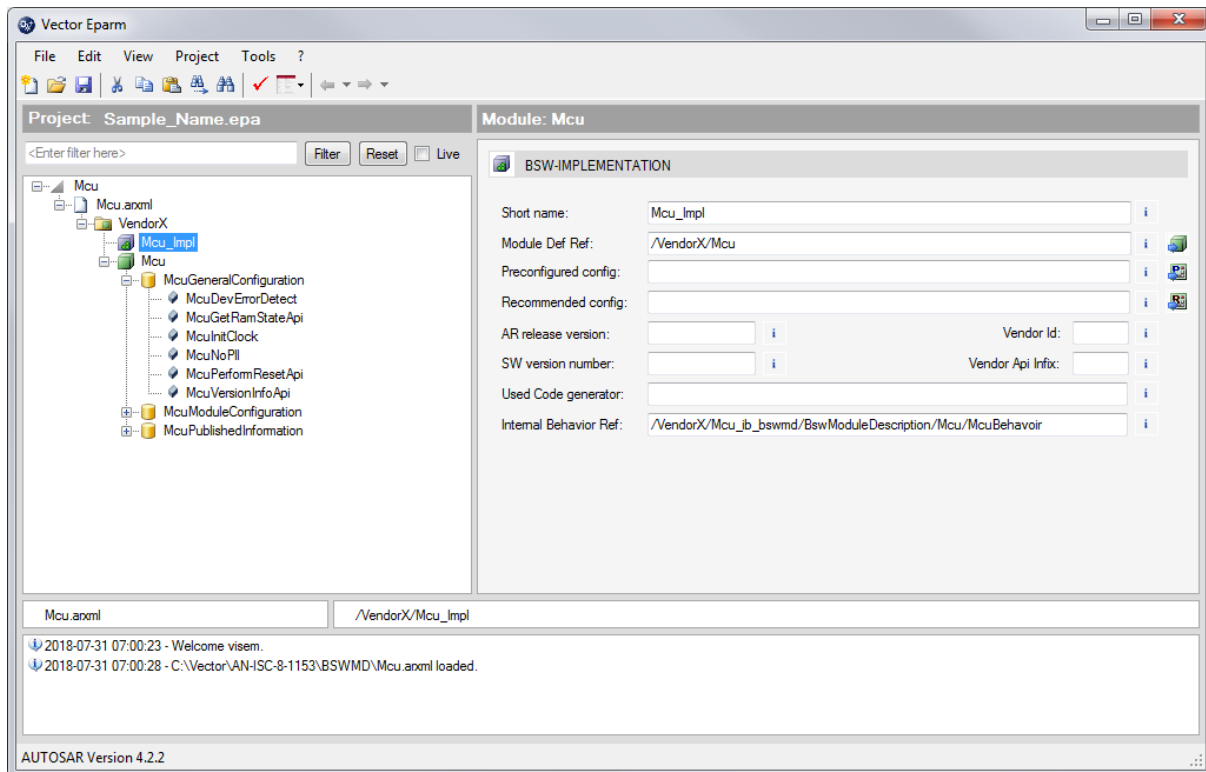

Figure 1-1 - Overview of BSWMD file of MCU
**BEHAVIOR">/VendorX/Mcu\_ib\_bswmd/BswModuleDescriptions/Mcu/McuBehavior</BEHAVIOR-REF>**, see also Figure 1-1). The RTE reads the Internal Behavior of the module from this file and provides a solving action to create an **RteBswModuleInstance** with this information.